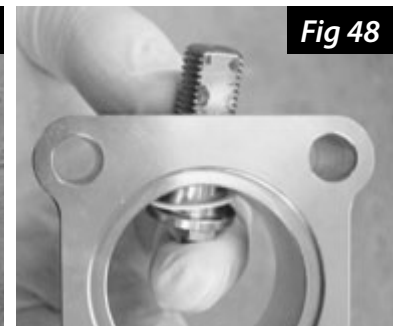

Fig 48
2. Insert the valve stem through the inside of the valve body (Fig 48).